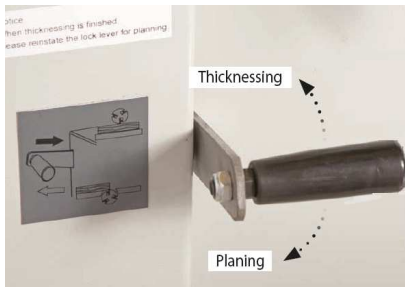

Fig 24
3. Raise the locking lever to engage the thicknessing function, see Fig 24.